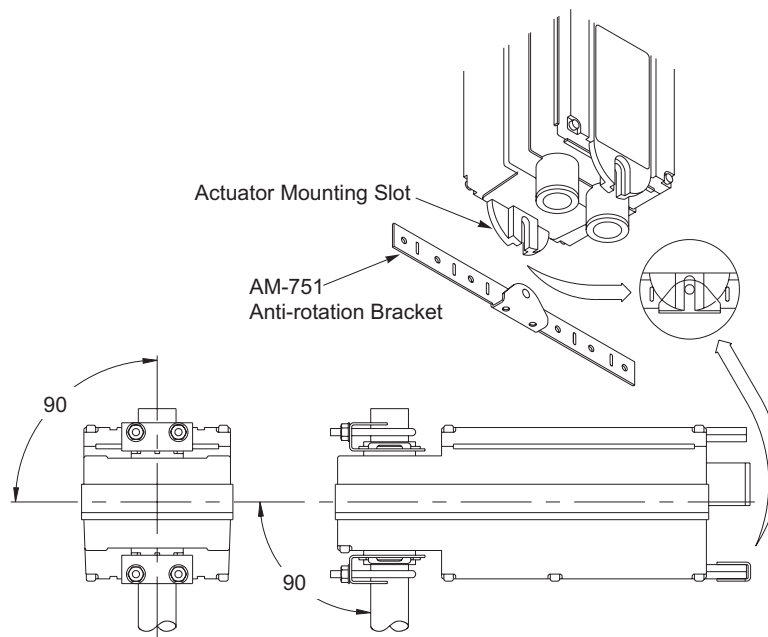

Figure-12 Mounting Anti-rotation Bracket to Actuator.
- Align the actuator at 90° (perpendicular) to the damper shaft. See Figure-12.
- Slide the anti-rotation bracket pin into the mounting slot on the actuator and drill mounting holes. See Figure-12. For narrow spaces, the AM-752 anti-rotation bracket is recommended (order separately).
8. Slide the anti-rotation bracket pin into the mounting slot on the actuator. See Figure-12. For narrow spaces, the AM-752 anti-rotation bracket is recommended (order separately).